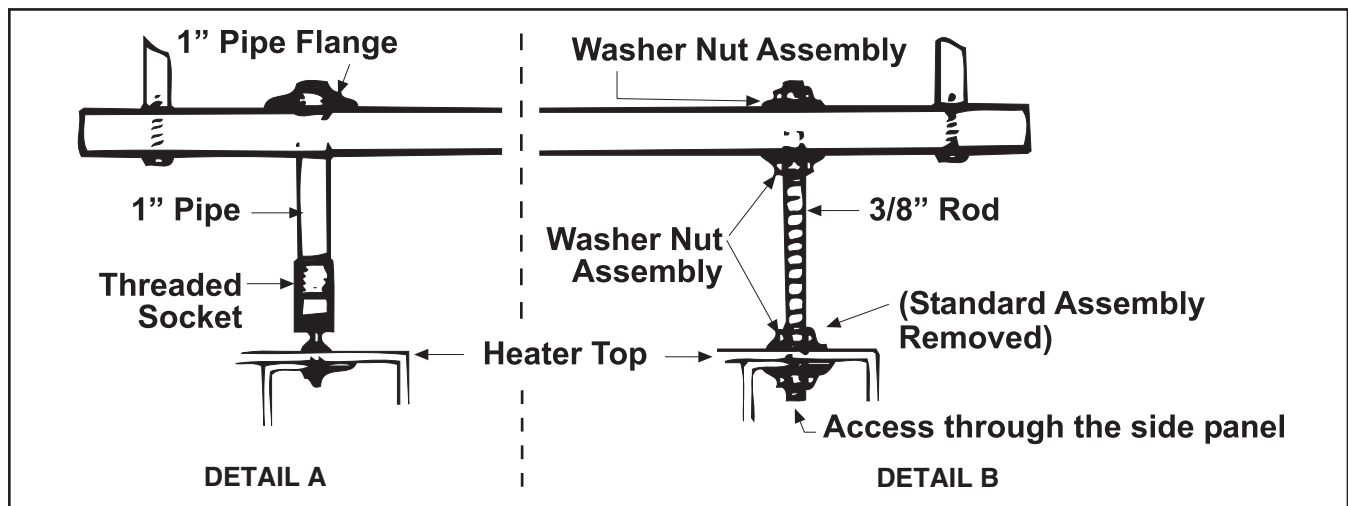

Figure 9. Suspension-Mounting
- At each suspension point, the furnace is factory-equipped with a free-turning, female, 1-inch NPT pipe hanger. Suspend the furnace by connecting each pipe hanger to a 1-inch threaded pipe as shown in Figure 9, DETAIL A.
- As an alternative method, the factory-installed pipe hanger may be removed and the heater may be suspended as shown in Figure 9, DETAIL B.